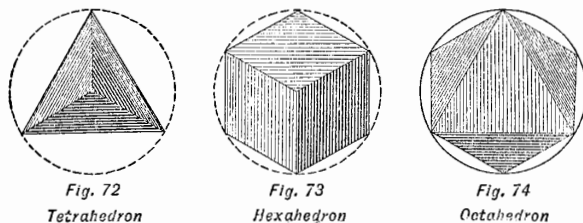

Fig. 72
85. A *Tetrahedron* is bounded by four equilateral triangles. It is thus also a triangular pyramid whose sides are equal to its base. Fig. 72.